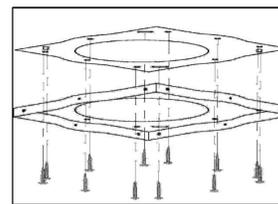

fig.8
1. Position the hanging plate on the ceiling and then mark the position of the screw holes. The hanging plate should be securely fixed to the ceiling. 11 x ST6 (40mm) screws are for wooden ceiling and 8 x expansion bolts are for cement ceiling (see fig.8 on the right)